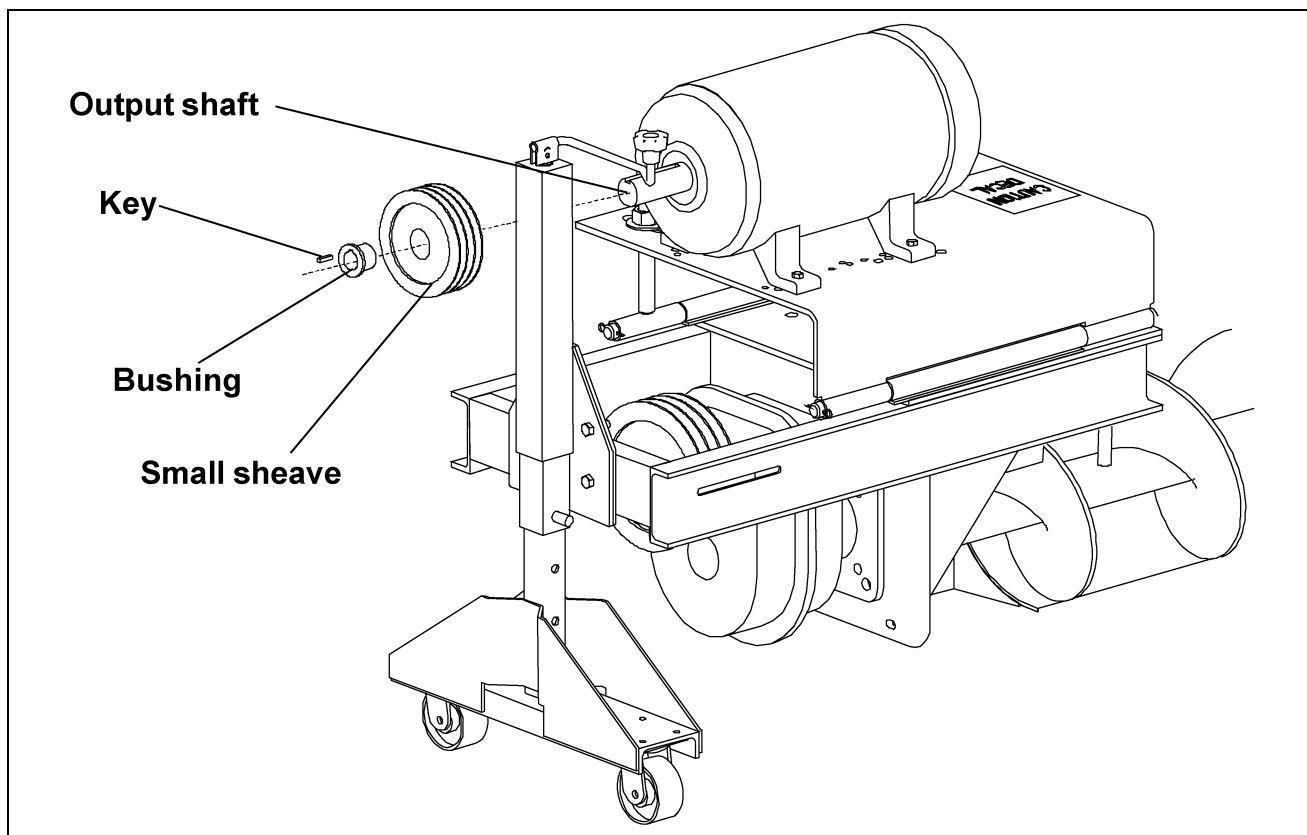

Figure 5Y
D. Slide the bushing and small sheave onto the motor shaft with a key. (See Figure 5Y.)
E. Align the sheaves with a straight edge to assure proper alignment and tighten the screws on the bushings. (See Figure 5Y.)